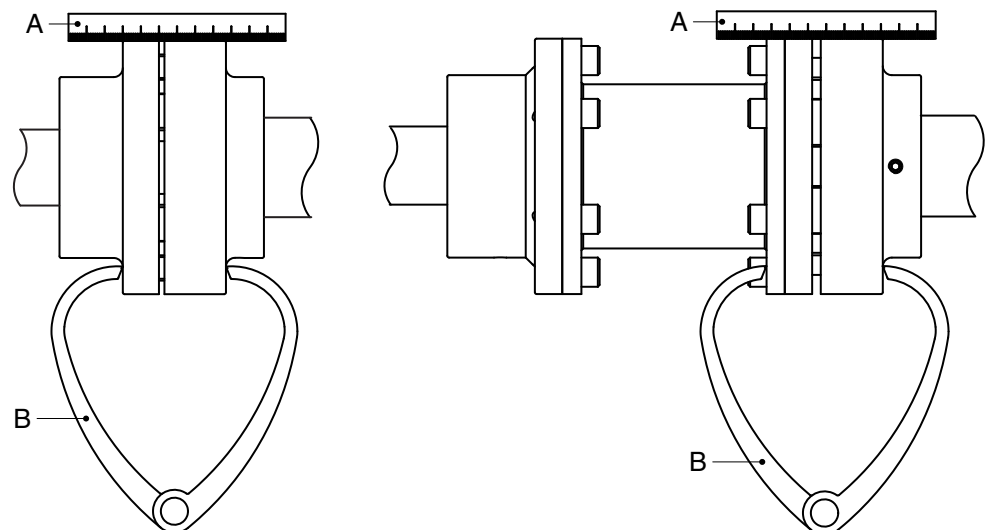

Figure 8: Aligning the coupling by means of a ruler and a pair of outside calipers.
- 1 Place a ruler (A) on the coupling. Place or remove as many copper shims as is necessary to bring the electric motor to the correct height so that the straight edge touches both coupling halves over the entire length, see figure 8.
- 3 Check the alignment once again using a pair of external callipers (B) at 2 diametrical opposite points on the sides of the coupling halves, see figure 8.